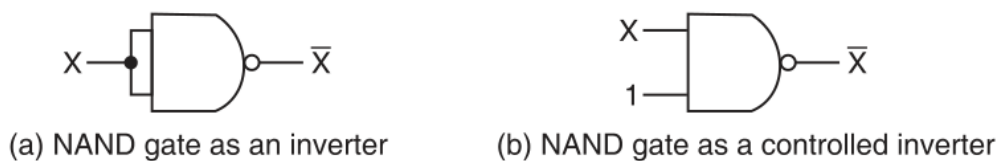

Figure 4.11 NAND gate as an inverter.
- **Realization of NOT using NAND (Kumar, Figure 4.11):**